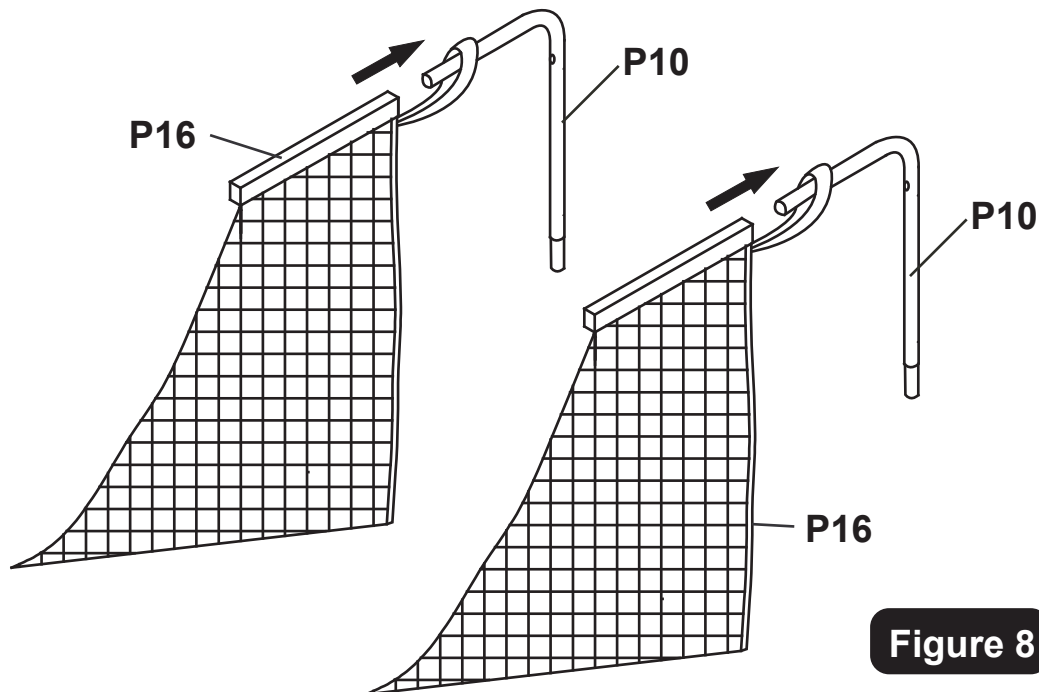

Figure 8
- 10.** Slide elastic straps and sleeve of **P16** Ramp Net onto **P10** Top Tubes as shown in **Figure 8**.